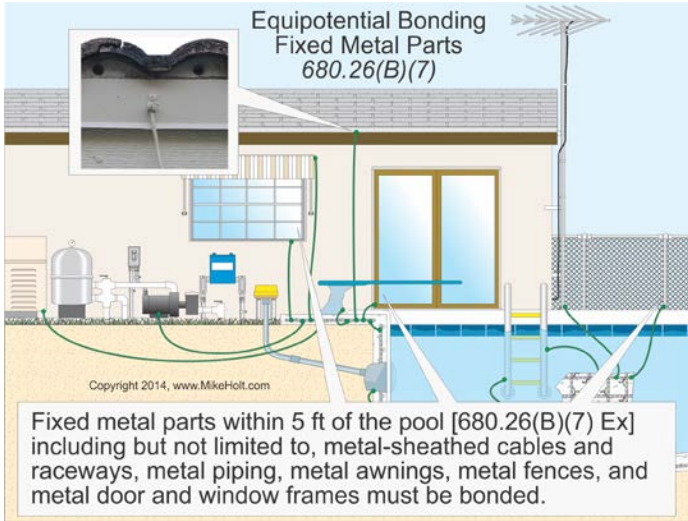

Figure 680-46
(7) Fixed Metal Parts. All fixed metal parts must be bonded to the equipotential grid, including but not limited to, metal-sheathed cables and raceways, metal piping, metal awnings, metal fences, and metal door and window frames. Figure 680-46